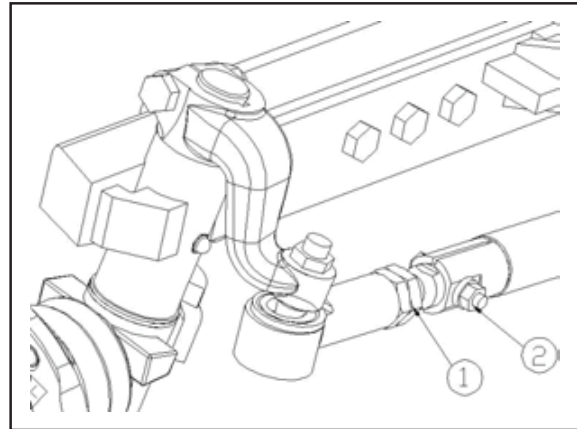

Fig.112
1. If adjustment is necessary, loosen both ball joint locking nuts (1, Fig. 112).
2. Remove both pinch bolts (2) from each end of the steering cylinder.
4. Refit the nuts and bolts (2) to the end of the steering cylinder and tighten to a torque of 85 Nm (63 lbf-ft).
5. Check the toe-in, if the measurement is now acceptable, set the bolt (2) in horizontal position, tighten the two ball joint locking nuts (1) to a torque of 260 Nm (192 lbf-ft) on each end of the track rod.